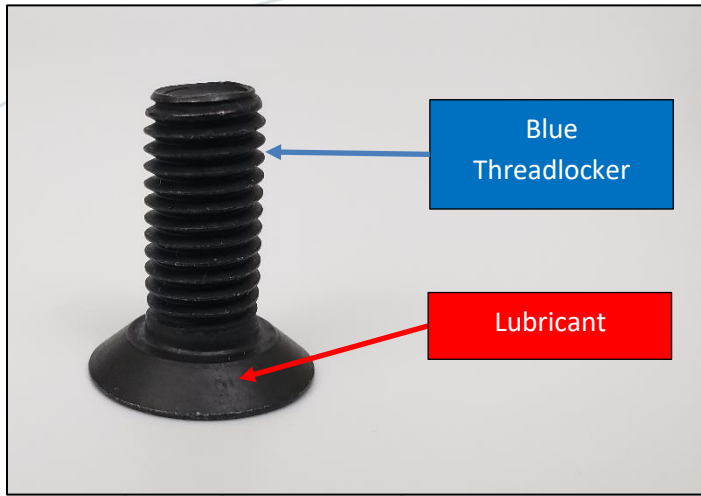

Figure 23: Countersink Bolts
- b. Put blue threadlocker on the threads of the two T45 Torx countersink bolts (Figure 23).